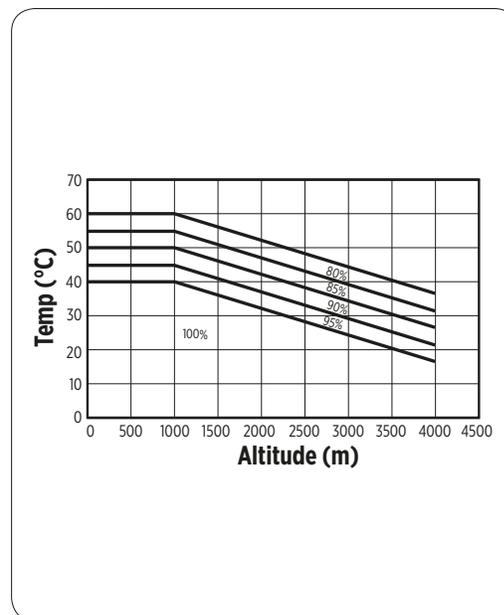

Fig. 5
- With liquid level below the pump (negative suction head EH: Fig. 5-A; EHsp: fig. 11-A)
- Remove the filling caps (EH: Fig. 5-A1, 5-A2; EHsp: fig. 11-A1, 11-A2).
- Partially unscrew the discharge cap to release pressure on the pump (EH: Fig. 5-A1; EHsp: 11-A1).
- When there is no more pressure completely remove the inlet and discharge caps (EH: Fig. 5-A3; EHsp: fig. 11-A3) and wait for pump to empty.